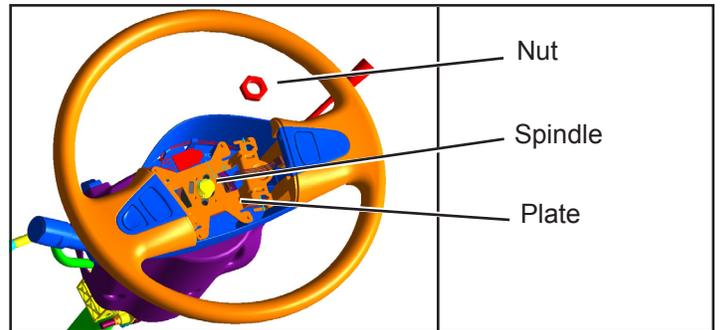

Figure 4 Steering Wheel Nut Removal
6. Remove the steering wheel nut. Refer to Figure 4.